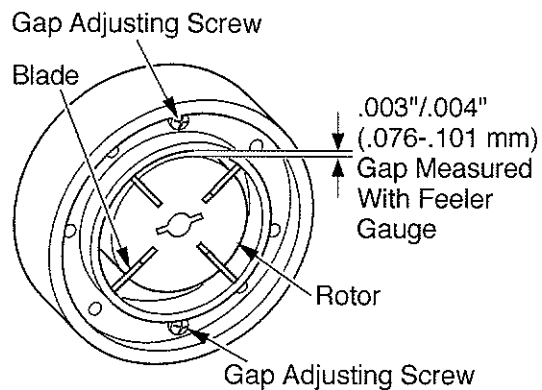

Figure 32 - Gap Adjusting Screw Locations
9. Check gap on rotor. Adjust to .076/.101 mm (.003"/.004") if needed (see Figure 32).